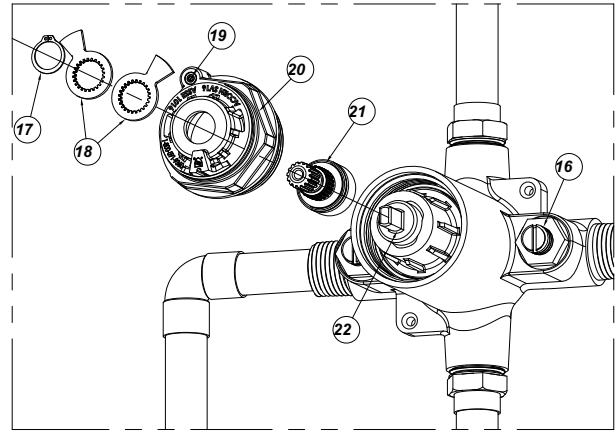

FIGURE 8
Excessive overheating of valve during soldering may damage the cartridge and checkstops. Do not heat valve any higher than needed to flow solder. If a higher temperature method is being used, **all internal components must be removed**. See figures 8 for cartridge removal and 9 and 10 for temperature limit setting.
Excessive overheating of valve during soldering may damage the cartridge and checkstops. Do not heat valve any higher than needed to flow solder. If a higher temperature method is being used **all internal components must be removed**. See figures 8 for cartridge removal and 10 for temperature limit setting.
### 1. Bonnet Removal: Figure 8.
- a. Inspect valve cartridge **22** ensuring that 'D' shaped grooves have cartridge screen O-rings **23** in them and that stainless steel screens **24** are seated. See **Figure 8**.